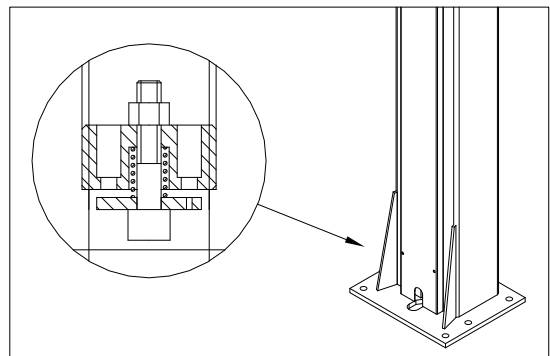

Fig. 14
- ◆ In case of a sudden, great leakage in the hydraulic circuit (a broken pipe), the blocking valves, at the bottom of each Cylinder, will trip. **(Fig. 14)**